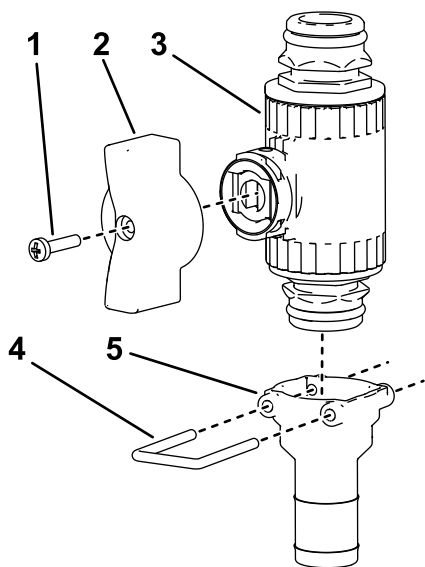

Figure 24
10. Assemble the straight fitting to the other straight control valve using the retainer as shown in Figure 24.